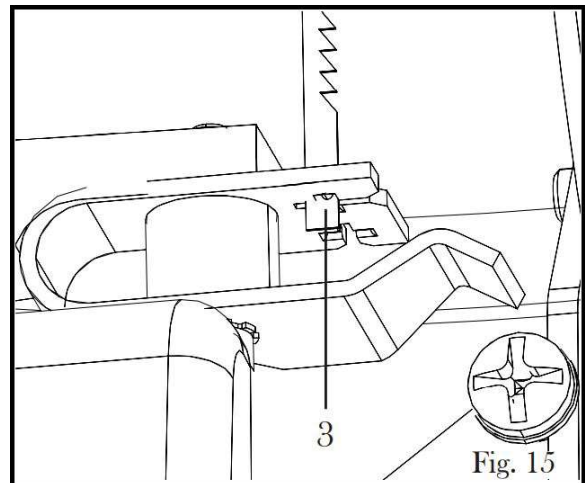

Figure 15
4. When installing the new blade, hook the blade in the recess in the lower blade holder (3). See figure 15.